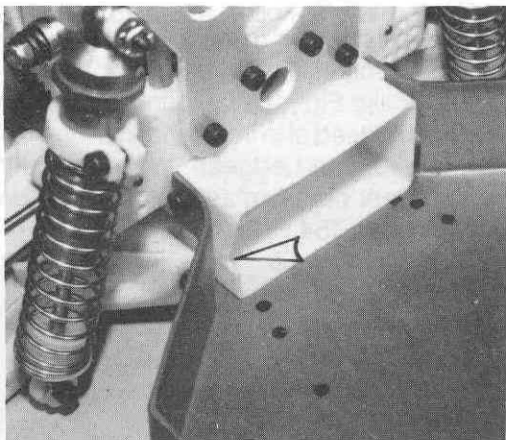

Fig. 163
□ **Fig. 163** This notch is for a Futaba S27 or S29 servo.